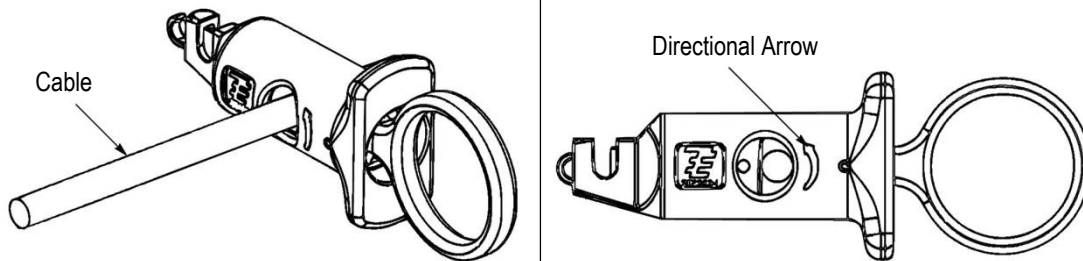

Figure 2
**3. STRIPPING THE CABLE JACKET** (Figure 2)
4. Rotate the tool around the wire in either direction as indicated by the arrow shown in Figure 2. Rotating the tool toward the larger arrow provides a deeper cut while rotating the tool toward the smaller arrow provides a shallower cut.